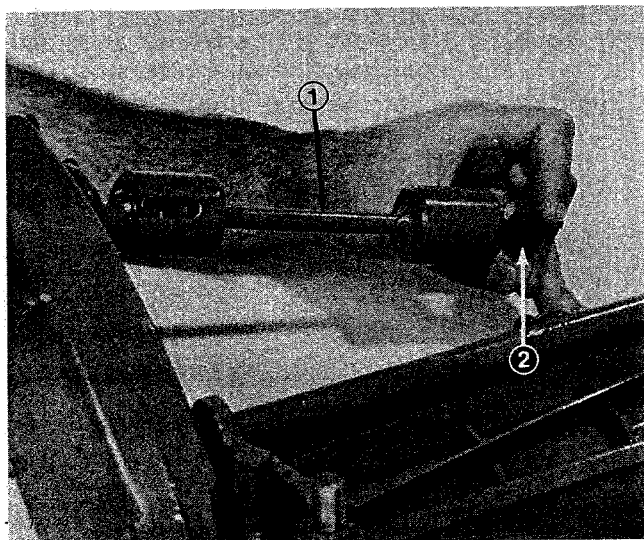

Figure 26
1. Slide the cutting unit under the yoke from the right side, line the drive shaft up with transmission shaft and install drive shaft. Be sure pad is installed into drive shaft (Fig. 26).